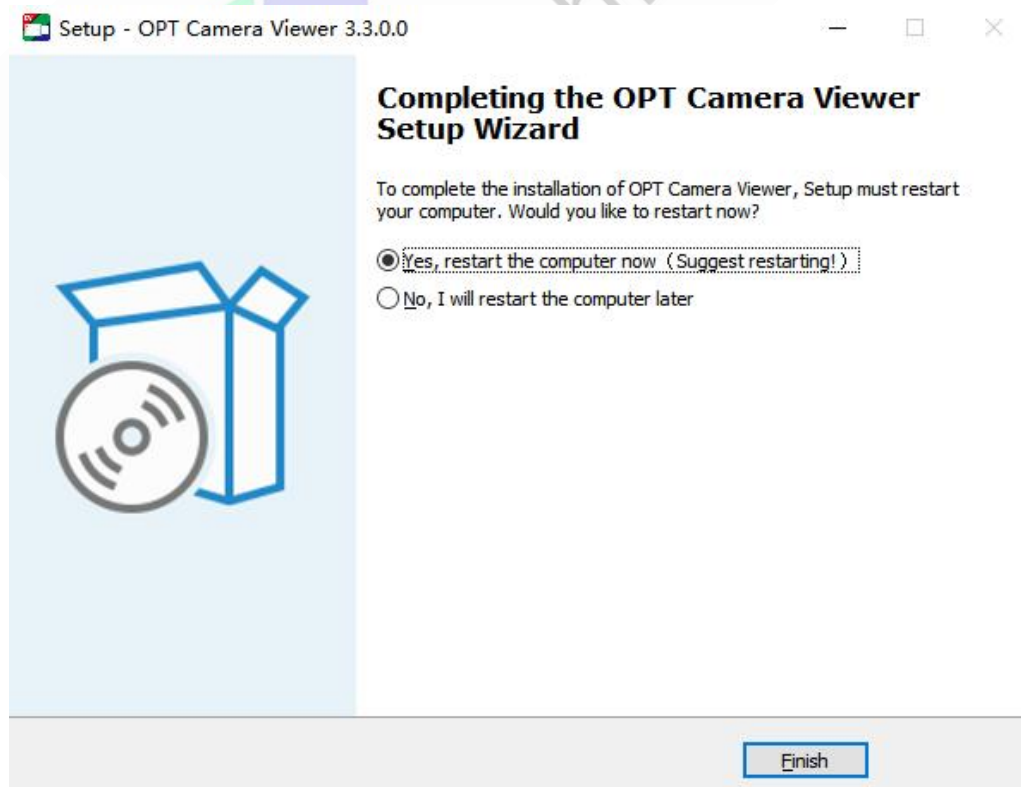

Figure 3-7 Windows for software installation success
8. The software installation success window is shown in Figure 3-7. The software OPT Camera Viewer is installed successfully, click the complete button to end the installation process.